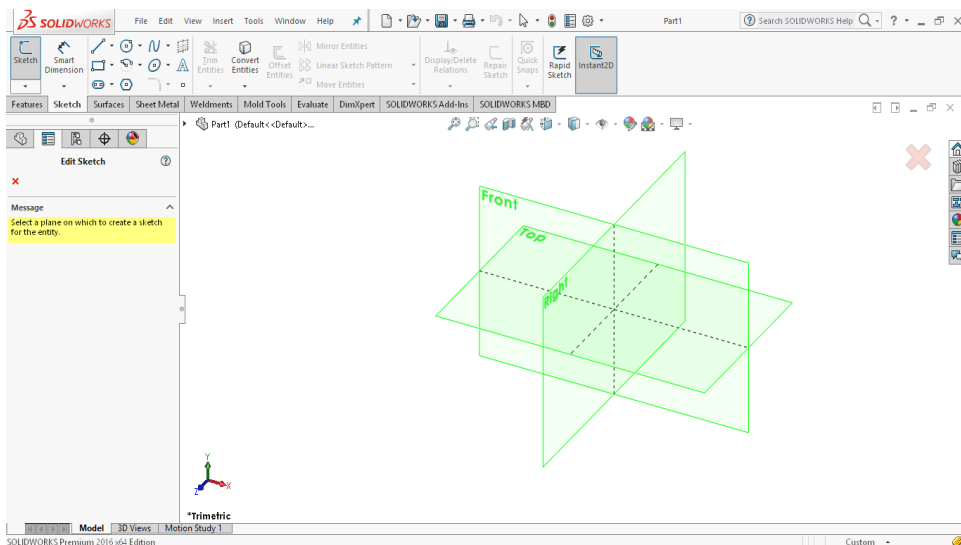

Figure 2-12 The three default planes displayed on the interface
- Choose the **Sketch** button from the **Sketch CommandManager**; the **Edit Sketch PropertyManager** is displayed on the left in the graphic area and you are prompted to select the sketching plane on which the sketch is to be created. Also, the three default planes (**Front Plane**, **Right Plane**, and **Top Plane**) are available in SOLIDWORKS, and are temporarily displayed on the screen, as shown in Figure 2-12.